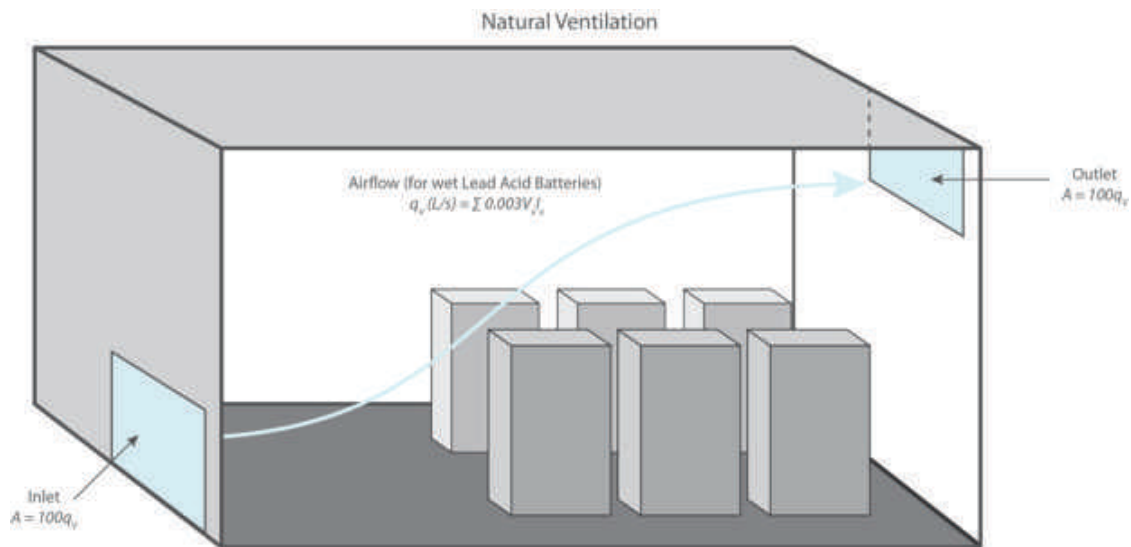

Figure 9: Natural ventilation arrangement for battery systems
- Best practice is to provide the input ventilation vents on an outside wall below the level of battery and the output vents on an outside wall on the opposite side of the batteries as high as possible in the enclosure to prevent hydrogen build up (as shown in Figure 9).